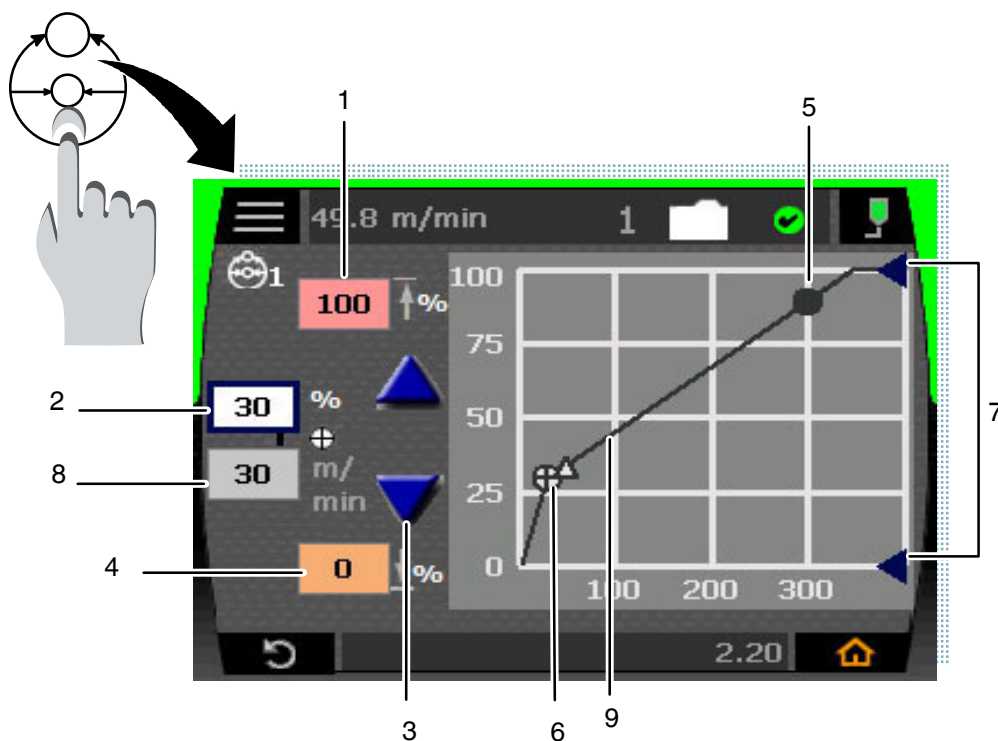

Figure 5-14 Pressure Run up menu
| 1. Maximum Line Pressure (percent) | 4. Minimum Pressure (percent) | 8. Line speed for corresponding pressure point setting (items 5 or 6 in Figure 5-14) |
| 2. Pressure Setting in percent for end points (items 5 or 6 in Figure 5-14) | 5. Set point 1 (unselected) | 9. Set line |
3. Select upper pressure point (see item 5 in Figure 5-14) and enter pressure (%) at the corresponding line speed.
4. If a lower pressure point is desired, tap a lower pressure point (see item 6 in Figure 5-14) and enter pressure and line speed in percent.